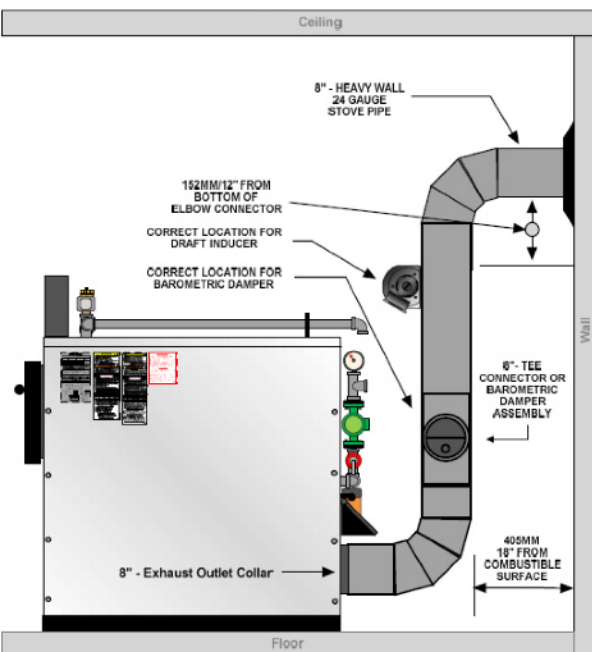

Figure 1 – Through Wall Configuration
**For a through wall configuration, the unit must be located 12” from the bottom of the elbow leading into the wall. (See figure 1 – Through Wall Configuration)**
- See Figures 1 and 2 on previous page for Proper Location of the Draft Inducer.